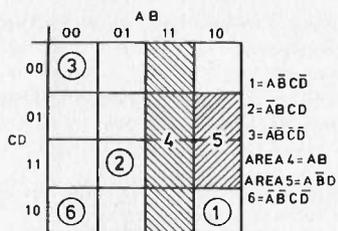

Fig. 1.8b. Allocation of squares
This notation extends to cover all areas and squares in the map; each square has its own unique set of variable conditions. Hence, in Fig. 1.8b, the square number (1) is vertically in the column $A = 1$, $B = 0$, i.e. the column AB , and horizontally in the row $C = 1$, $D = 0$, i.e. the row CD . Hence, square (1) is $A \bar{B} C \bar{D}$.
in Fig. 1.8b is actually adjacent to square (6); again, they only differ by one change of state.